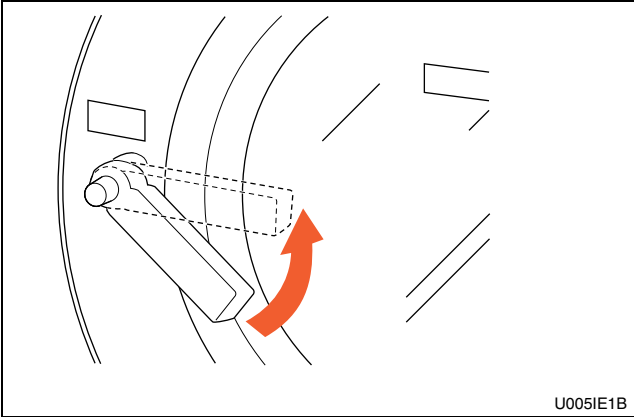

Figure 11
6. Close door and turn handle counterclockwise until button pops out. Refer to *Figure 11*.